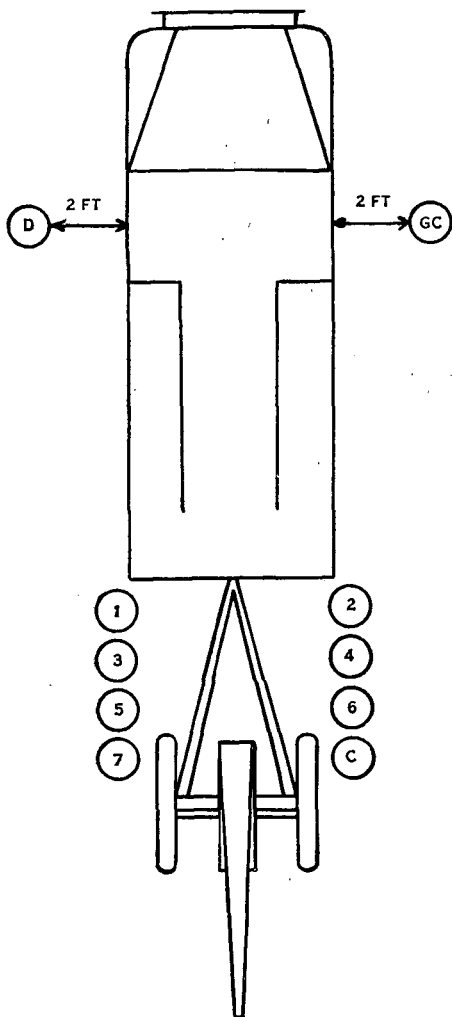
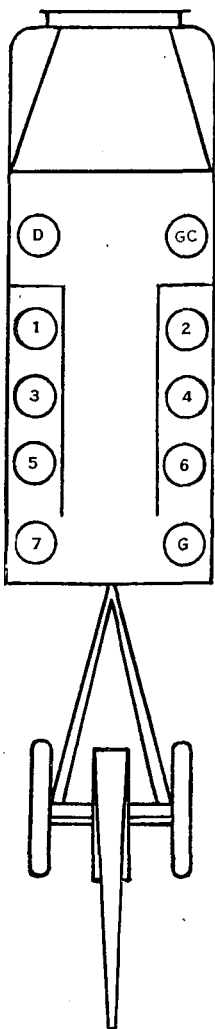

FIGURE 32.—Posts of cannoneers in PREPARE TO MOUNT.
FIGURE 33.—Posts of cannoners MOUNTED.
■ 72 To MOUNT.—The command is: 1. CANNONEERS, PREPARE TO MOUNT. 2. MOUNT. At the first command, the cannoneers move at double time to positions shown in figure 32. At the second, the cannoneers of both columns mount in order from head to rear, and take seats as shown in figure 33. Each cannoneer is assisted by the one directly behind (or in front in the case of the last cannoneer in column) to insure promptness, and prevention of injuries. If the gun commander and
■ 73. To DISMOUNT.—The command is: 1. CANNONEERS, PREPARE TO DISMOUNT, 2. DISMOUNT. At the first command, the cannoneers assume standing positions facing the rear of the prime mover; at the second command, they jump to the ground and at the double time take posts as shown in figure 32. If the gun commander and driver are to be included in this movement, the command is: 1. PREPARE TO DISMOUNT, 2. DISMOUNT. At the first command, the gun commander and the driver unlatch their doors and hold them slightly open; at the second command, they promptly dismount, close their doors, and take posts as shown in figure 32.